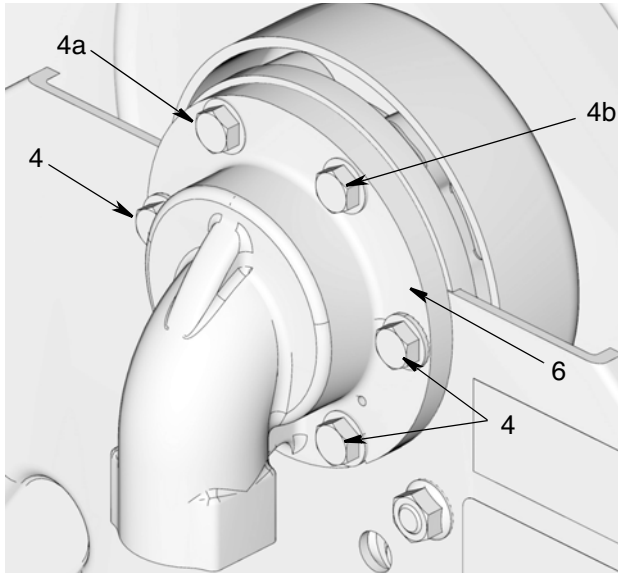

FIG. 42
- a. Position inlet (6) in the desired orientation on the base. (FIG. 42).
- b. First install the top 2 bolts (4a and 4b) as shown in FIG. 42 through frame and inlet (6). Tighten bolts just enough to hold everything in place.
- c. Install the remaining bolts (4) (FIG. 42). Hand tighten and then torque all bolts to 13-16 ft. lbs (17.6-20.3 N•m).